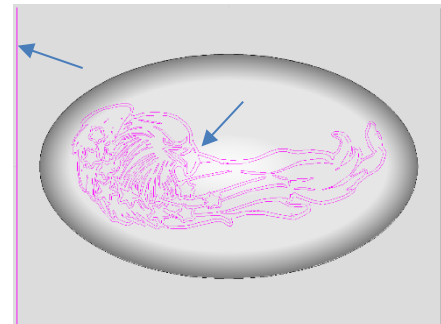
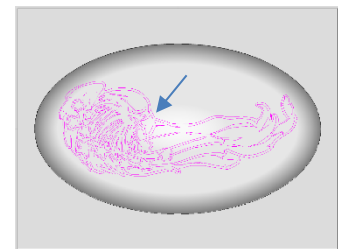
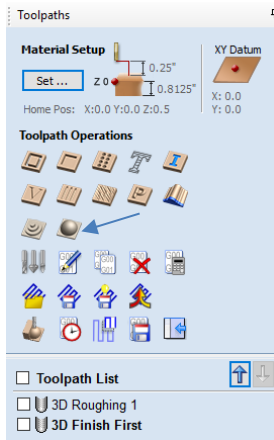

Fig. 19
Fig. 21
Fig. 22
23. You have a 2D vector image of the areas that need Rest Machining. You now have all the vectors and the Project Boundary in a Group (Fig. 19).
24. Ungroup the image and remove the Project Boundary (Fig. 19). Re-Group the Project vectors (Fig. 21). If you do not remove the boundary, you will be machining your entire project with a very small cutter.
25. While the traced vectors are selected (Fig. 21), create another "3D Finish Toolpath" (Fig. 22).